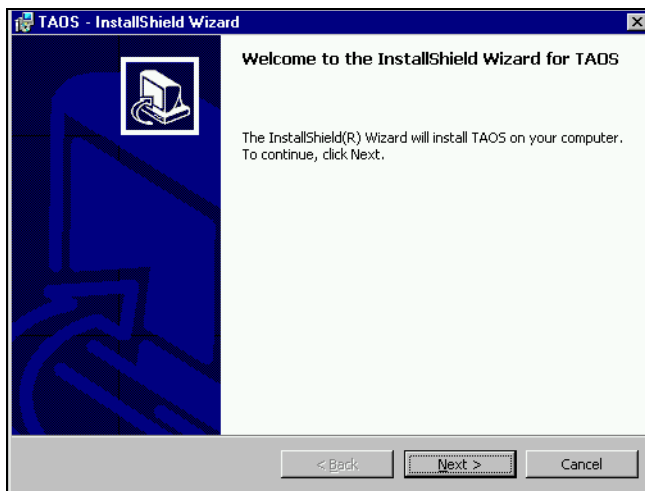

Figure 7-6 The InstallShield Wizard window, click Next.
3. The InstallShield Wizard appears. Click **Next** (Figure 7-6).